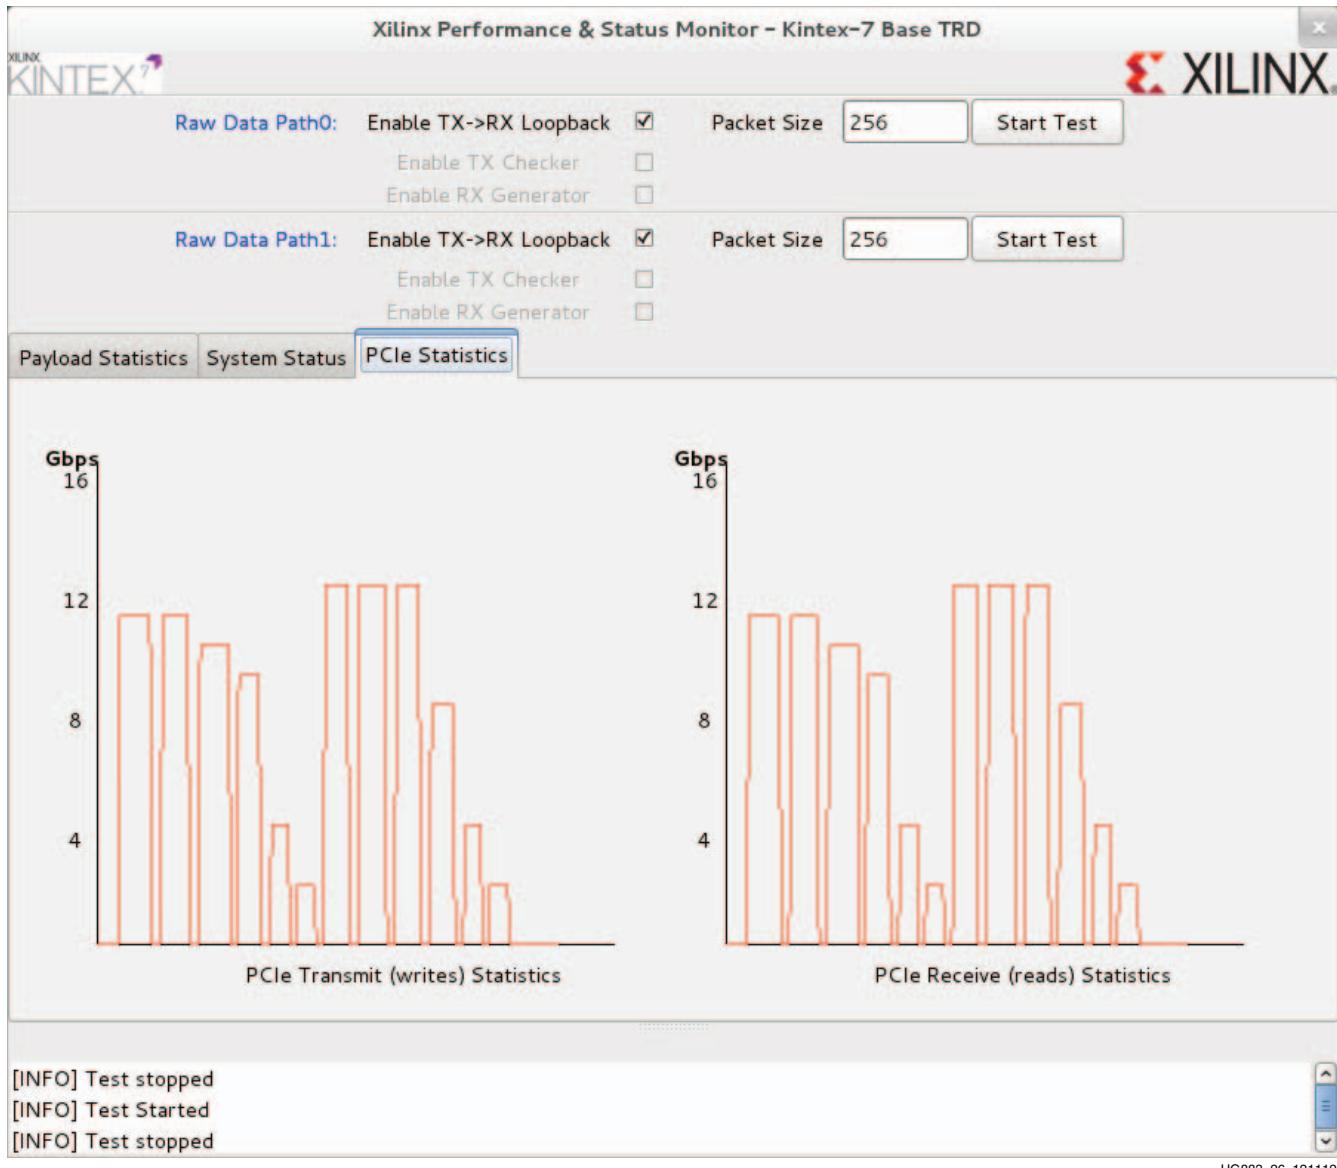

Figure 26: PCIe Statistics in the Performance Monitor
- Click the **PCIe Statistics** tab to view data transfer numbers with varying packet sizes on the PCIe interface (Figure 26).